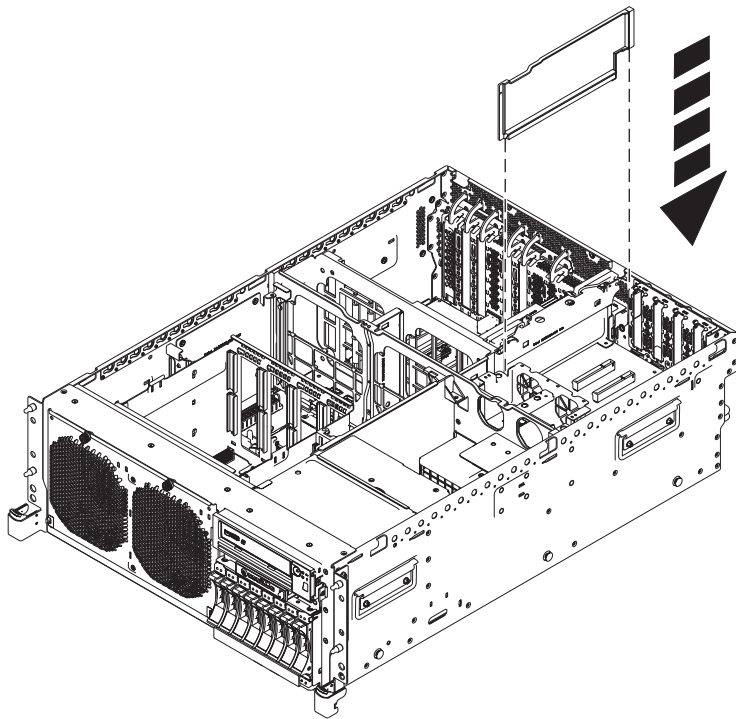

Figure 44. Installing an expansion riser air baffle in a rack-mounted system unit
8. Install the plastic shield (PN 46K5417) between the blue latch and the first PCIe slot, as shown in Figure 44 on page 53.